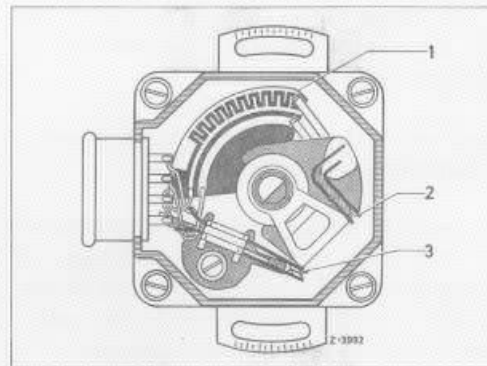

FIG. 14
3. The THROTTLE VALVE SWITCH (Fig. 14) which is attached to the throttle shaft, has several functions.